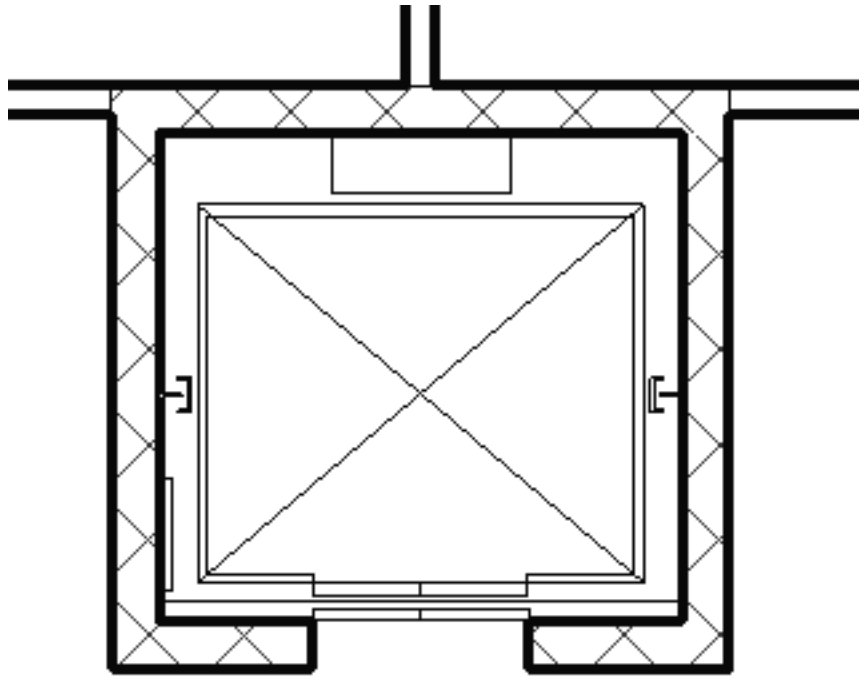

FIGURE 3-4.4 Elevator door added to plan
16. Place the elevator door at the center of the wall, aligned with the elevator door on the cab (Figure 3-4.4).